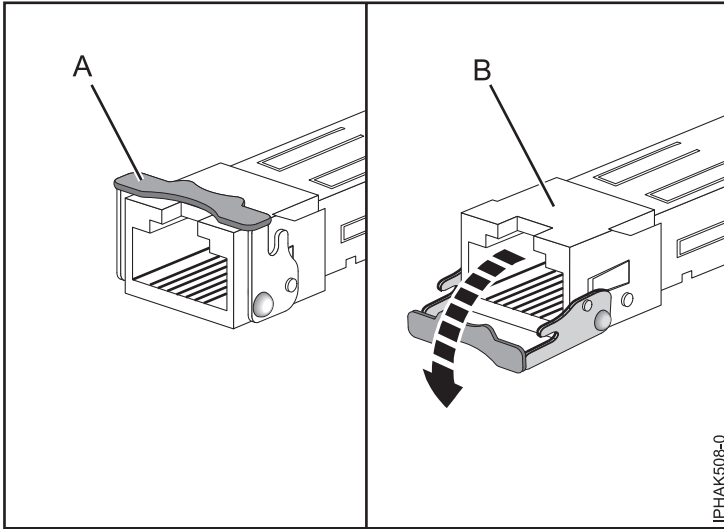

Figure 50. Removing SFP transceivers from adapters
- b. Open the latch (**A**) by rotating it down and away from the card as shown in Figure 50 on page 50.